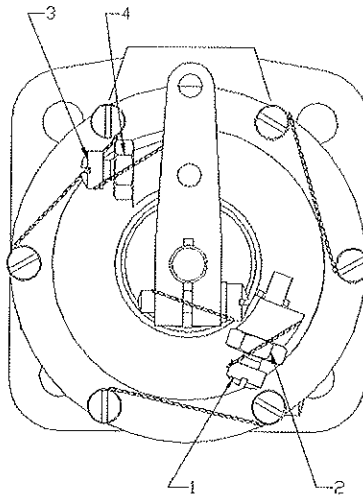

Fig. 6
Remove lock wire from the stop screw, fig. 6. pos. 1 (3) and loosen the lock nut 2 (4) of the screw 1 (3).
Lock screw at maximal (minimal) RPM stop with safety wire (see Fig. 6).